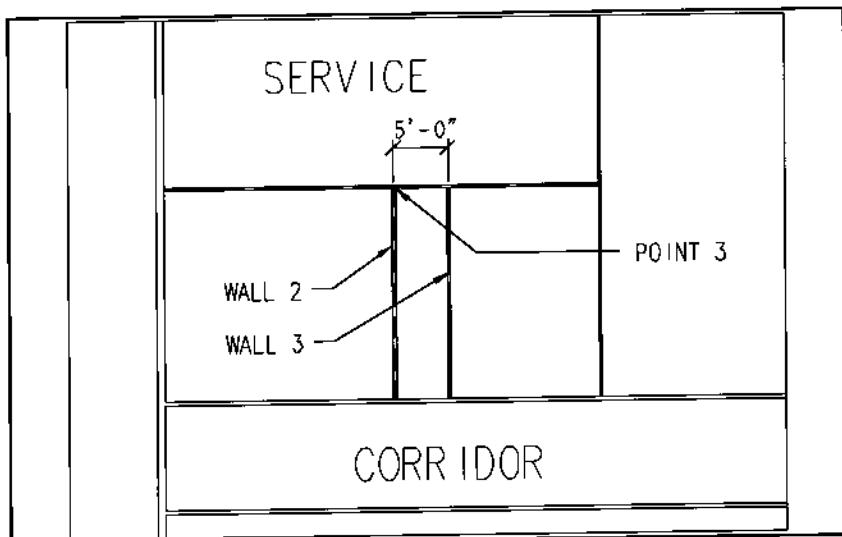

Figure 24.
1. Press return or select Continuous Wall again from the Walls pull-down menu to draw WALL 3 as shown in Figure 24.
- > Pick base point <last>: **INT of [point 3 as shown in Figure 24]**